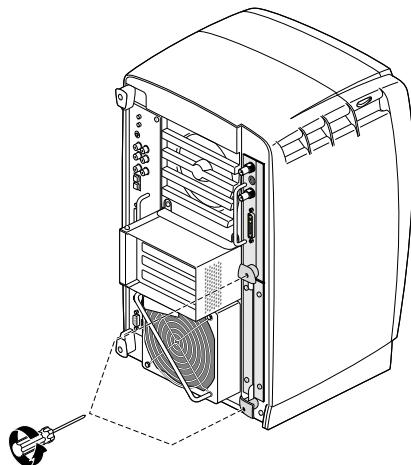

Figure 10 Loosening the XIO Tri-Module Screws
1. Loosen the two captive screws in the XIO Tri-Module sliding handles with the supplied Phillips screwdriver, as shown in Figure 10, until the screws are disconnected from the chassis.